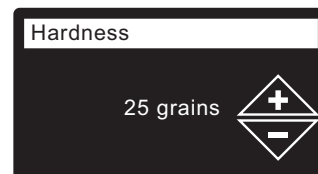

FIG. 21
- HARDNESS** Press the UP (▲) or DOWN (▼) buttons to set the value of your water's hardness (See Figure 21).